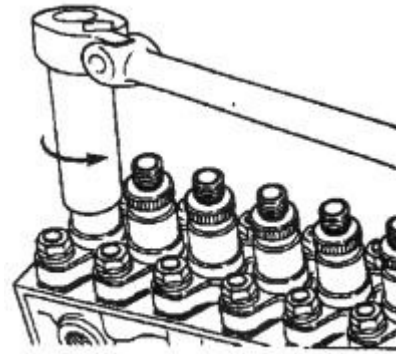

Figure 5
4. With the engine at TDC, loosen but do not remove, the front #1 delivery valve holder using special socket, Snap-on tool number SP503, Figure 5).